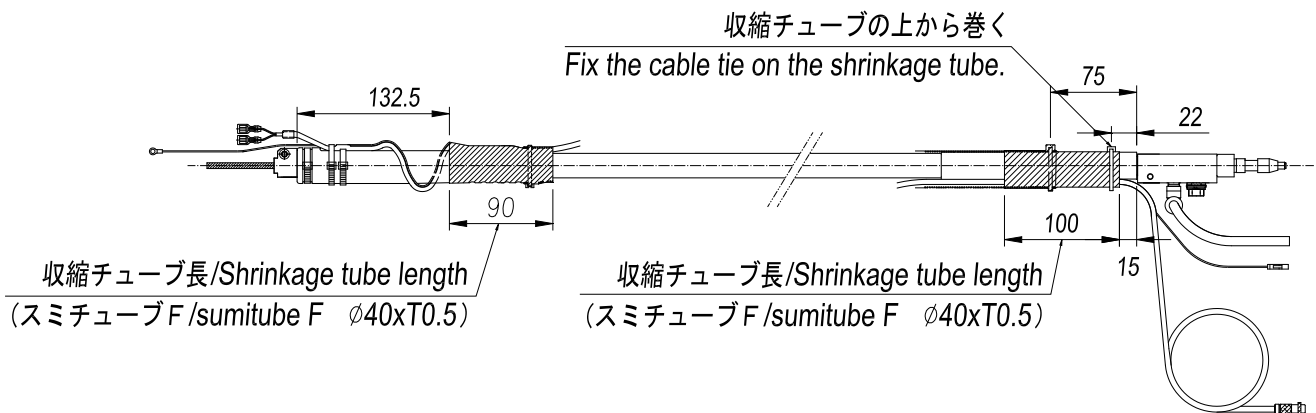

Fig 4.12 Installation procedure (3)
- (3) Install the shrinking tube at the position shown in the shaded area of Fig. 4.12 and fix with the cable tie. Be sure to shrink the shrinking tube properly to eliminate any clearance gap.